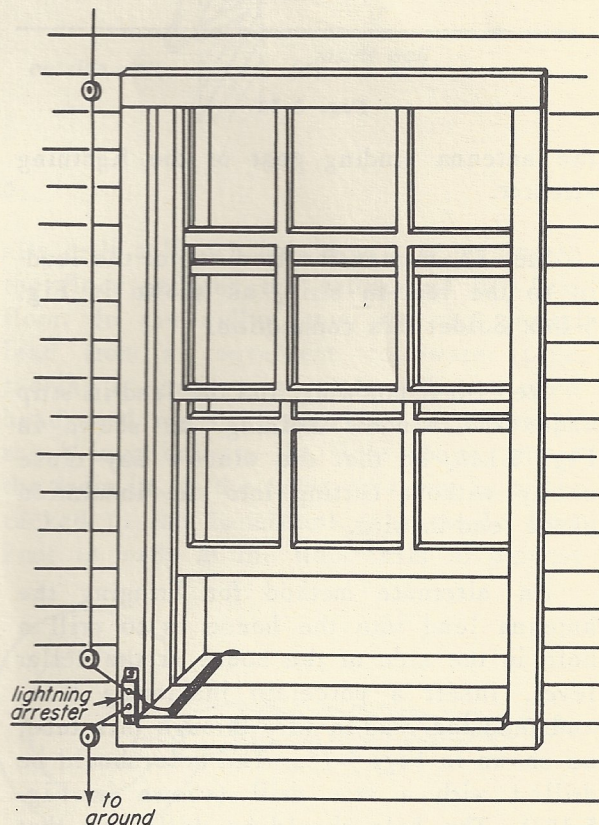

Fig. 5-13
Step 11. Fasten the lead-in to the casement of the window that is to be used for bringing the antenna into the house, as shown in Fig. 5-13. Make sure that the lead-in is taut between the two porcelain insulators so that it does not sway with the wind. Otherwise, the lead-in will sway back and forth from the building, and, particularly in wet weather, may cause fading in the receiver.